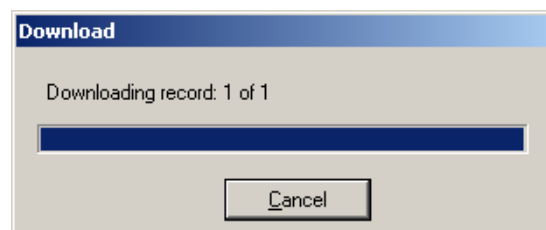

Figure 2-30 Sequence of Events Retrieve/Download Screen
1. From the IPScom Main Screen menu select **Relay/Sequence of Events/Retrieve**. IPScom will display the Sequence of Events Recorder Download screen (Figure 2-30) and indicate the number of Sequence of Events Recorder Events being downloaded.